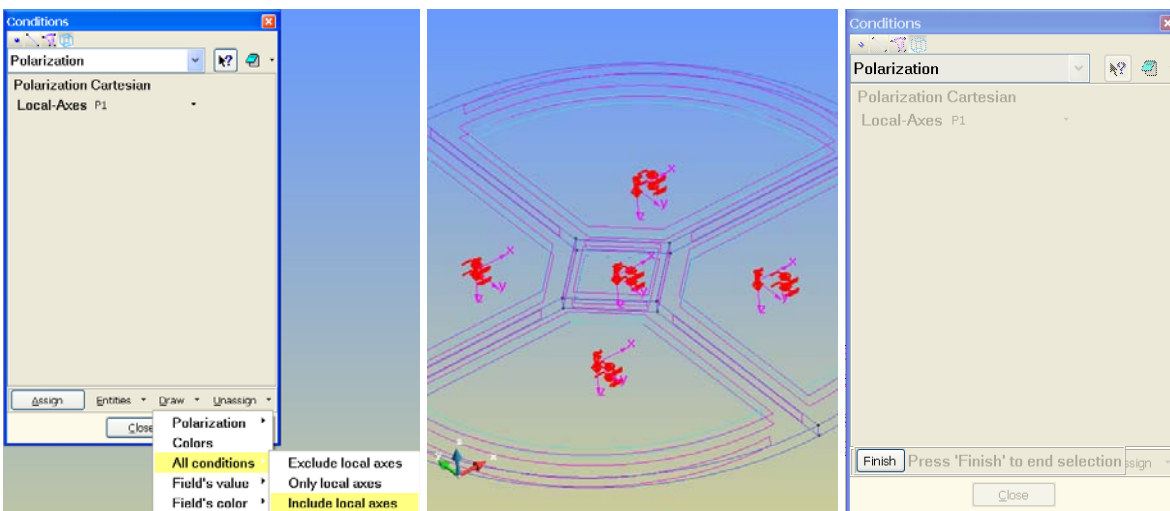

Figure C2.31. Confirmation of Polarization
To confirm the assignment of polarization click **Draw** → **All conditions** → **Include local axis**. The process and results are shown in Figure C2.31.
**Note:** All of the conditions will be shown in red. See center panel of Figure C2.31.